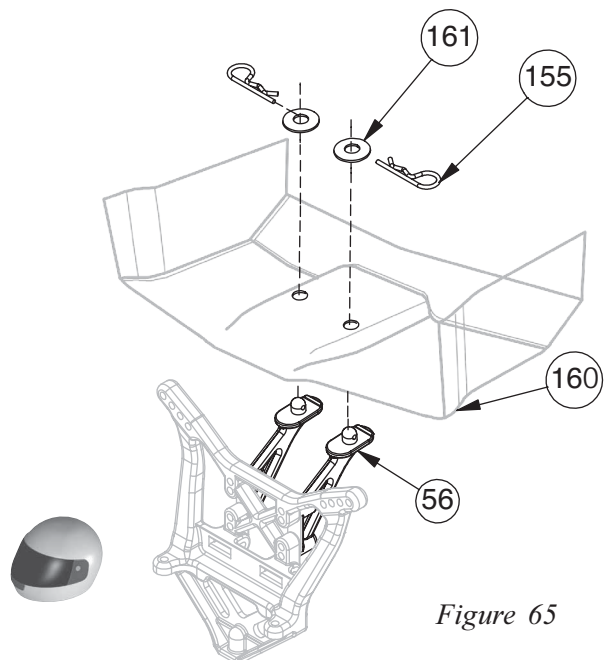

Figure 65
- ❑ 1. Trim the rear Wing (160) along the trim lines as shown in Figure 65.
- ❑ 3. Place the rear Wing onto the rear Wing Mounts (56) as shown in Figure 65. Place a Wing Mount Washer (161) over the post on each rear Wing Mount.
- ❑ 4. Secure the rear Wing and Wing Mount Washers to the rear Wing Mounts by installing a Body Clip (155) through the hole in the post on each rear Wing Mount.